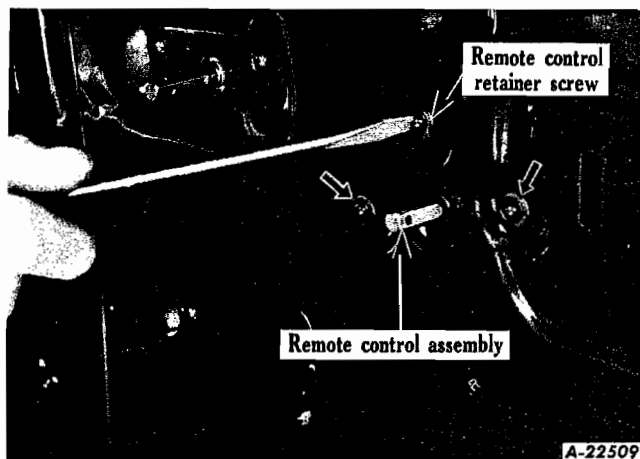

Fig. 43
13. Remove three retaining screws from remote control assembly (Fig. 43).